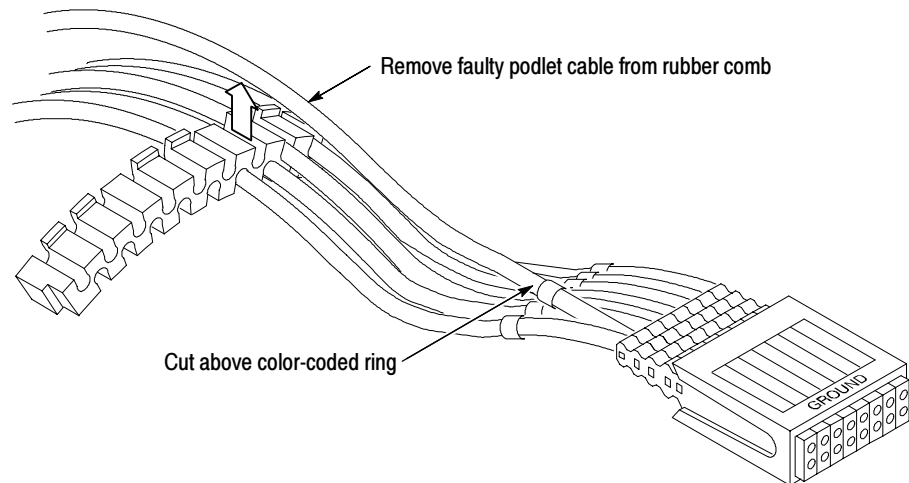

Figure 13: Removing a podlet cable from the rubber comb
10. Refer to Figure 13 and bend the rubber comb to remove the faulty podlet cable from the comb.